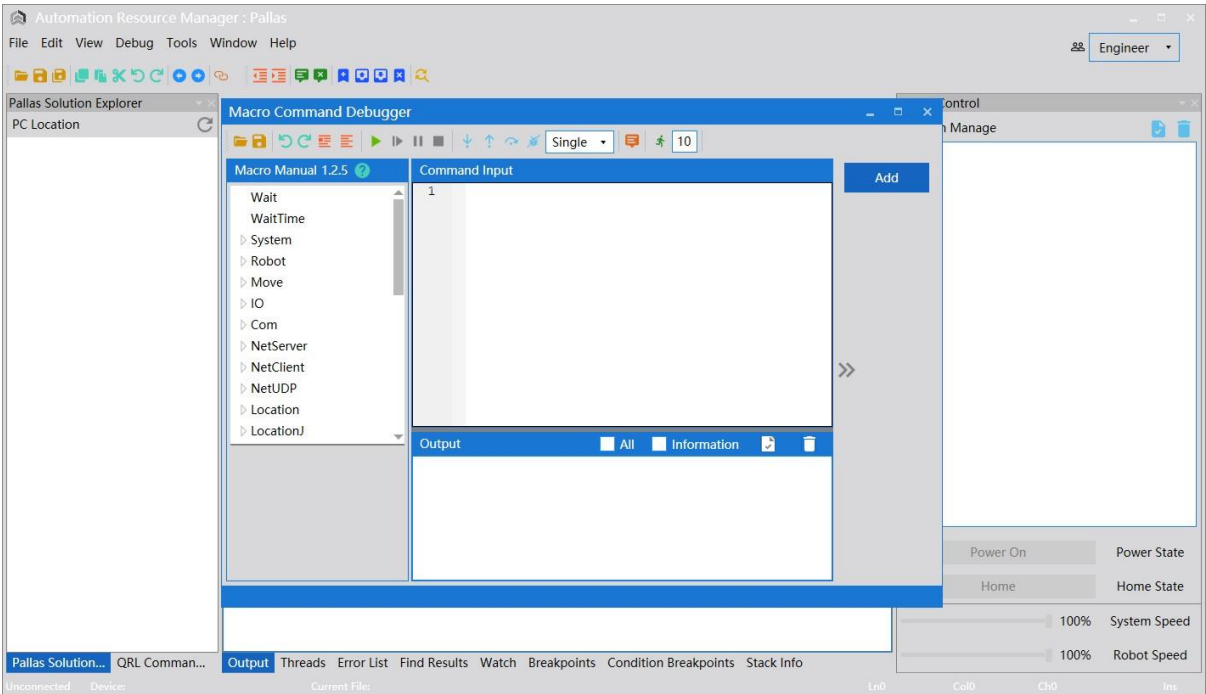

Figure 6-7 Macro Command Debugger
**Step 3** The macro command debugger is shown in Figure 6-7.